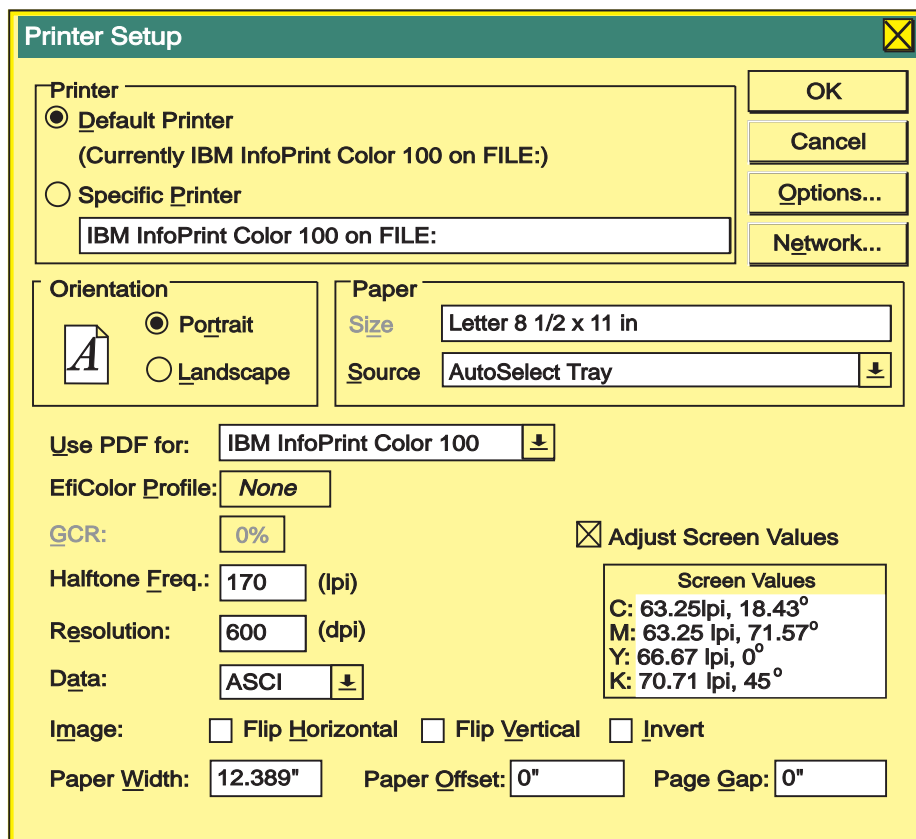

Figure 134. Sample Print Setup Window from QuarkXPress 3.32
1. Select the **Printer Setup** window, as shown in Figure 134.